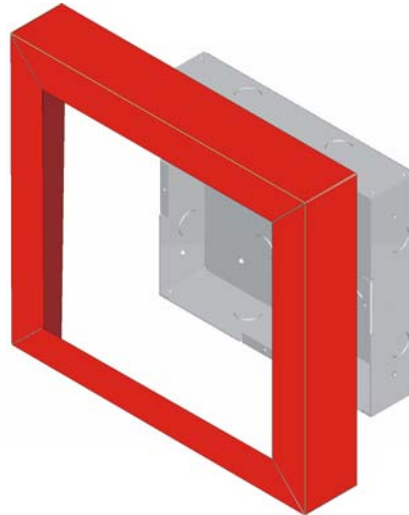

Figure 4.26 Installing Trim Ring
- Place the trim ring over the back box as shown in Figure 4.26.